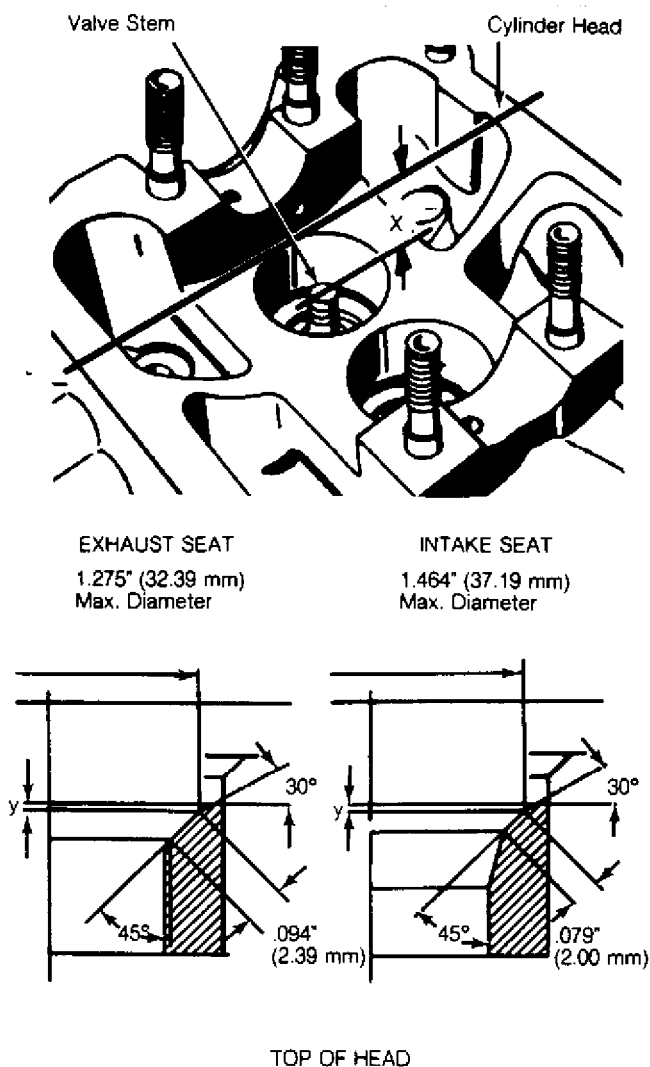

Fig. 7: Measuring Refacing Limit Of Valve Seat
4) To establish limit for cutting valve seats (dimension "y"), measure distance "X" between end of valve stem and upper edge of cylinder head (where camshaft cover gasket rests). See Fig. 7. Insert valve into guide and hold tightly against seat.